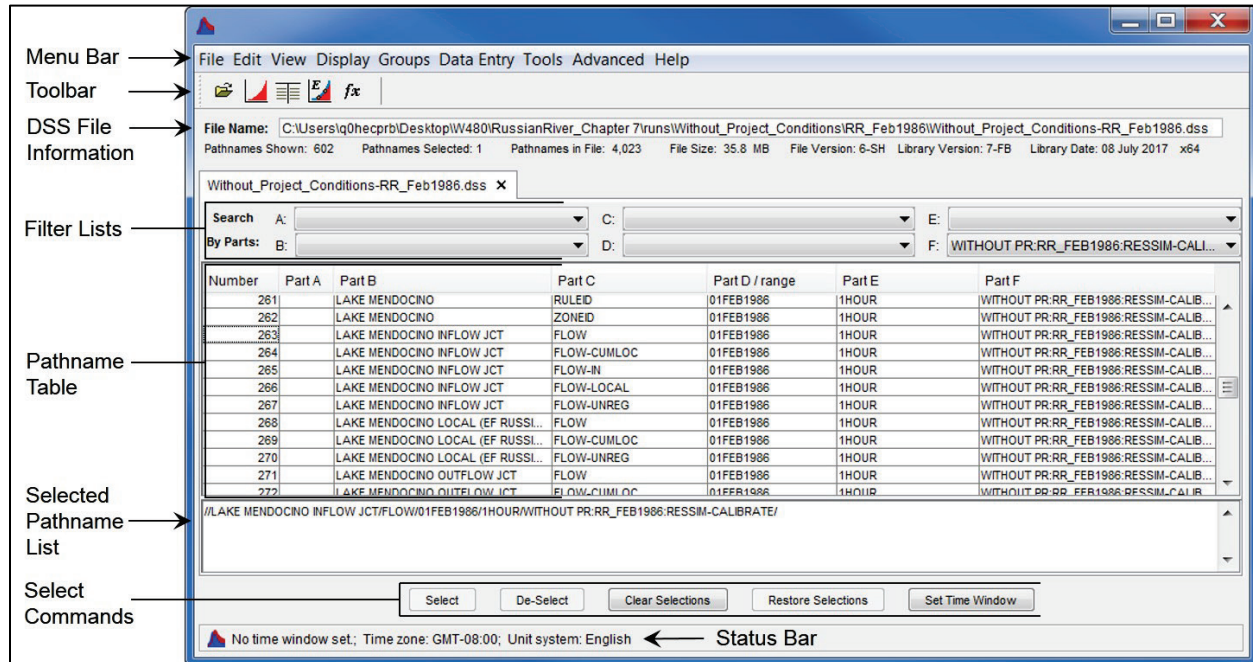

Figure J.1 HEC-DSSVue Main Window
To access HEC-DSSVue, from the HEC-WAT main window, from the **Tools** toolbar (Chapter 3, Section 3.4), click . Alternatively, from the HEC-WAT main window, from the **Tools** menu, click **HEC-DSSVue**. Either way, the HEC-DSSVue main window opens. The main window and its different components are illustrated in Figure J.1.
The **Toolbar** (Figure J.1) contains buttons that provide a user with the capability to open a DSS file, plot the data, and tabulate the data. These buttons provide a shortcut to the respective commands in the **Display** menu.
The **Filter Lists** (Figure J.1) are used to sort DSS pathnames by parts. There is a filter list for each individual part, A through F. The **Pathname Table** displays the filtered pathnames contained in the DSS file. The pathnames are displayed by the individual parts. The **Selected Pathname List** displays the pathnames that you have selected from the **Pathname Table**.
The **Select Commands** (Figure J.1) are available after you have selected the pathnames you wish to view or manipulate. Available commands are **Select, De-Select, Clear Selections, Restore Selections, and Set Time Window**. These commands will be detailed later in this appendix.
When a user has entered time window information, the **Status Bar** (Figure J.1) will display the time window information. A time window is where a user provides a specific timeframe for viewing or manipulating DSS data.
There are several ways to open a DSS file from HEC-DSSVue. One way is to enter the path and filename of a DSS file in the **File Name** box of the HEC-DSSVue main window (Figure J.1). After the correct information has been entered, press **ENTER**, the **Pathname Table** will display the pathnames from the selected DSS file, and the **DSS File Information** (Figure J.1) box will display statistics about the DSS file.
Another way to open a DSS file is from the **File** menu, click **Open**; or, click  from the **Toolbar**. Either method opens an **Open HEC-DSS File** browser (Figure J.2). The browser defaults to *My Documents* if a simulation map window is not displayed. However, if a simulation map window is open, the browser will default to the HEC-WAT *runs* directory. A folder will be created that is based on an HEC-WAT alternative (associated with the simulation), and an analysis period. Click on the DSS file, the name should appear in the **File name** box (Figure J.2), click **Open**. The **Open HEC-DSS File** browser (Figure J.2) will close, and the HEC-DSSVue main window will display the name of the DSS file and all of the pathnames associated with that DSS file will appear in the **Pathname Table** (Figure J.1).
5. Click **OK**, the **Set Time Window** dialog box (Figure J.3) will close, the time window will be set, and the time window will be displayed in the **Status Bar** of the HEC-DSSVue main window (Figure J.1).
The display of pathnames in the **Pathname Table** shows all of the pathnames by the different parts (Figure J.1). The user can change this display from the **View** menu; available commands are **Pathname List**, **Pathname Parts**, **Condensed Catalog**, and **No Pathnames**.
Once an appropriate list of pathnames is displayed in the **Pathname Table**, the user can select which pathnames to view or manipulate. To select a pathname, double-click on a pathname in the **Pathname Table** and the selected pathname will appear in the **Selected Pathname List** (Figure J.1). The user can also click on a pathname in the **Pathname Table**, and then click **Select** from the **Select Commands** (Figure J.1).
To clear a pathname from the **Selected Pathname List** (Figure J.1), select a pathname and click **De-Select** from the **Select Commands** (Figure J.1). The pathname will be cleared from the **Selected Pathname List**. To clear all pathnames from the **Selected Pathname List**, click **Clear Selections**, and the **Selected Pathname Box** will be empty.
The user can also clear groups of pathnames by using the same concepts described in selecting pathnames (Section J.5.3) by using the **SHIFT** and **CTRL** keys. Once pathnames have been cleared from the **Selected Pathname Box**, the pathnames can be restored to the **Selected Pathname Box** by clicking **Restore Selections** from the **Select Commands** (Figure J.1).
To view a plot of the pathnames in the **Selected Pathname List** (Figure J.1), a user can either click  the **Toolbar**, or from the **Display** menu, choose **Plot**. Either way will open the **Plot Window** (Figure J.6).